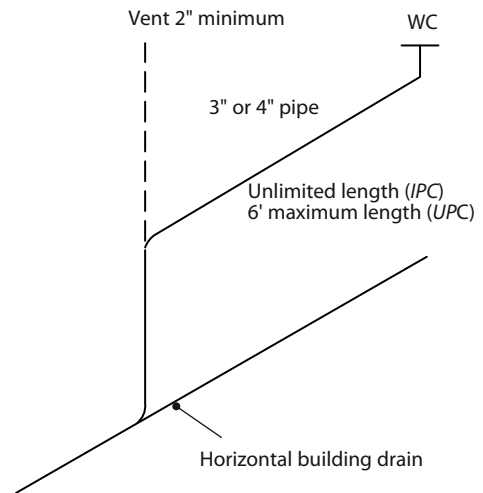

Figure 4-13
■ Floor drains are considered fixtures, so they're governed by the same 24-inch tailpiece (pipe) limit shown in Figure 4-11. Since it's often difficult to meet code limits, the *IPC* makes an exception for fixtures that are self-siphoning, such as water closets. The *IPC* allows a fixture drain (trap arm) of unlimited length; the *UPC* allows one up to 6 feet in length. See Figure 4-13.